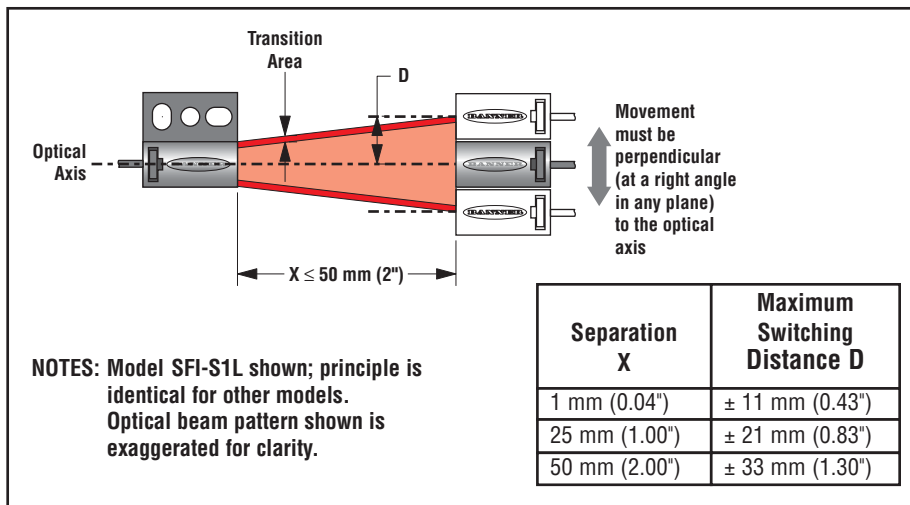

Figure 2. Switch alignment
Switching Distance	See Figure 2
- Linear (parallel) movement along the optical axis (see Figure 2 and the Application and Design Guide), or
The path of travel, or movement, of the Fiber Optic Safety Interlock Switch must always be perpendicular (at a right angle) to the optical axis to ensure proper switching. Perpendicular displacement along the optical centerline greater than the switching distance will result in a beam break and a stop condition (see Figure 2).
Do not exceed the minimum bend radius for the fiber optic cable to be used. The excess gain is dependent on switch pair alignment, fiber length, fiber bend radius, and other loss factors, which may result in a weak signal or beam break condition (e.g., increased transitional area, see Figure 2). See Bannerengineering.com for an on-line gain estimator or the Application and Design Guide for more information.